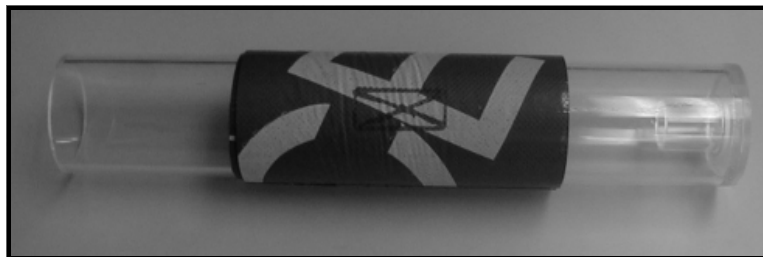

Figure 33: DMP-1 Material with
7. With a marker, trace around the transducer footprint, as shown in Figure 33 below.